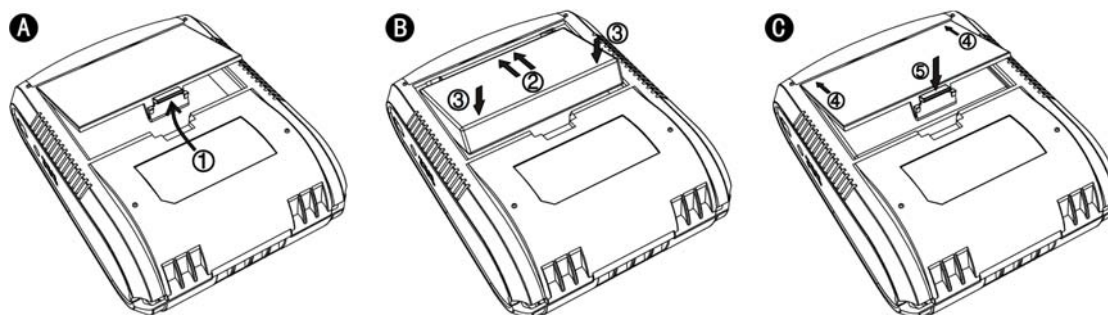

Figure 2-1: Installation of battery
1. Open the battery cover, as Step A in Figure 2-1 shows.
2. Put the battery into the battery box; notice that the polarity and position of the battery should be correct as Step B in Figure 2-1 shows.
3. Close the battery cover, as Step C in Figure 2-1 shows.